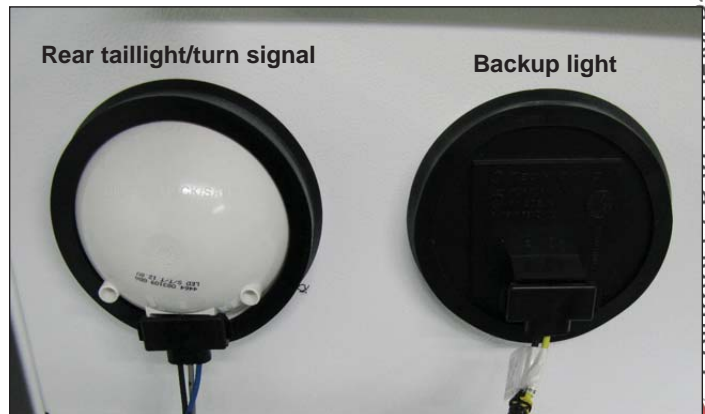

Figure 7-2. Rear Turn Signal Assembly and Backup Light
1. Unplug wiring connector (Figure 7-2). Push backup light through body to remove.